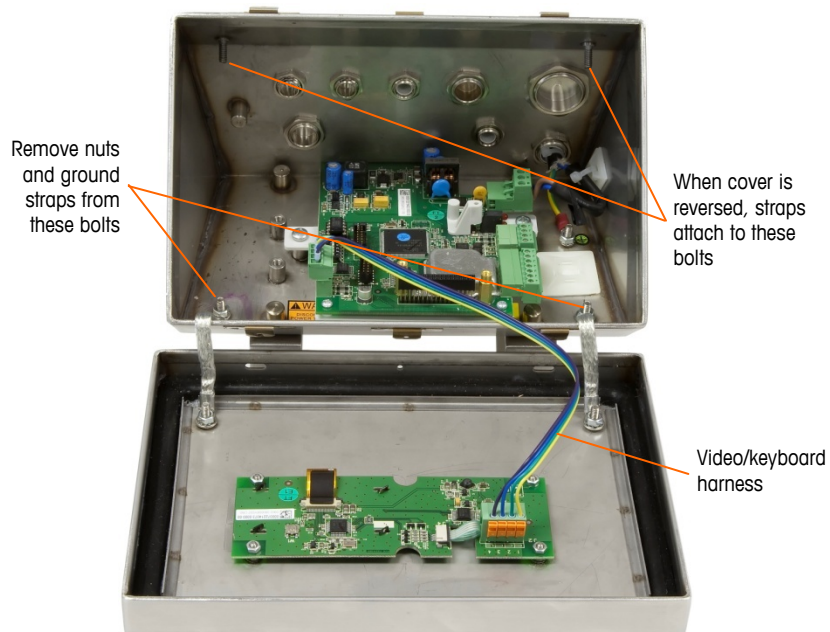

Figure 2-21: Loosening the Ground Straps
To open the harsh enclosure, use a flat blade screwdriver. Push the blade into each of the two slots in the cover (indicated in Figure 2-4) to compress the spring clip until the cover pops up. When both corners are free, press the cover upward until it clears the front edge of the housing. Then, press it backward until it unlatches the two remaining spring clips. Lift it carefully off the enclosure and swing it forward. The cover is attached to the enclosure by two strain relief/grounding cables, and is connected to the main board by the video/keyboard harness (see Figure 2-21).
- b. Loosen and remove the two nuts securing the two grounding straps (that also operate as hinges for the front cover) to the rear housing. See Figure 2-21.